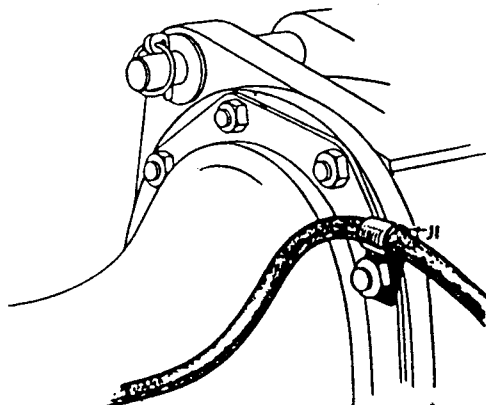

FIG. 11.
- (1). Pass the cable along the rear axle, thread through hole in transmission housing flange and behind steering arm and secure by three clips "J1," "H1" and "H2" to existing bolts on axle housing and lower steering housing, respectively, as shown in Figs. 11 and 12.
- (2). Take cable across the top of the transmission housing and secure by means of clip